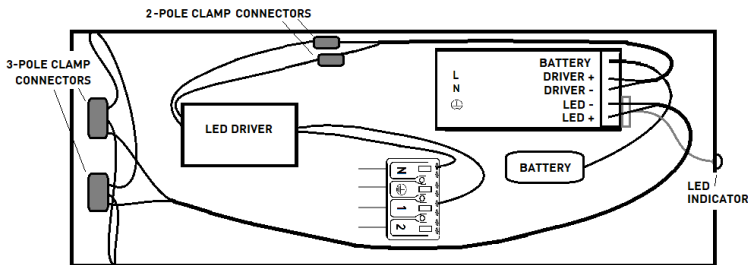

Fig. 2
- Screw the battery down with the screws provided and connect it to the emergency pack (see Fig. 2)
- Disconnect the output side of the LED driver from the two 3-pole clamp connectors which supply the LEDs (see Fig. 2)